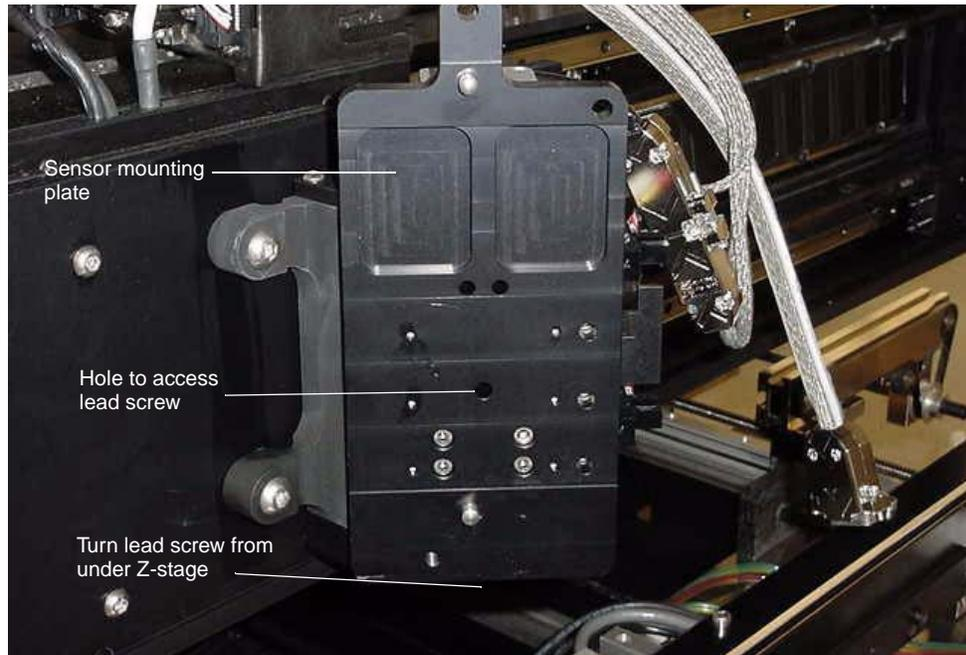

Figure 66. Z-axis Lead Screw
6. Using a cotton swab stick, apply a small amount of grease to the lead screw through a hole in the center of the sensor mounting plate (Figure 66).